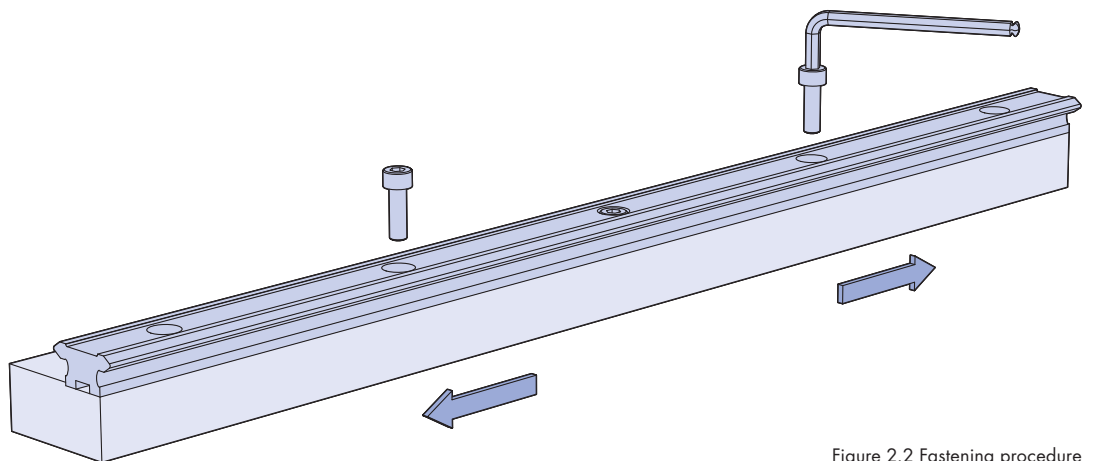

Figure 2.2 Fastening procedure
2.2 Once the holes have been drilled the slides can be secured to the base. Start from the middle of the slide and work outwards so it is secured down evenly along the length as demonstrated in figure 2.2.